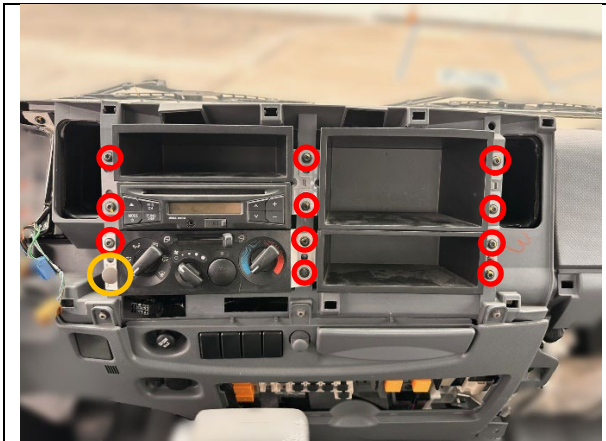

Figure 21
17. Remove the eleven (11) T25 screws securing the cluster compartments, radio and A/C control panel and the one (1) clip for the A/C control panel. (See Figure 21.) Remove the cluster compartments and Radio. Do not remove A/C Control panel. If